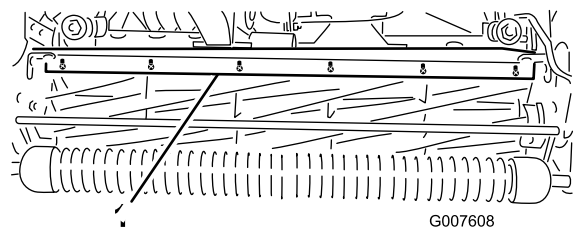

Figure 42
1. Loosen the screws securing the top bar (Figure 42) to cutting unit.